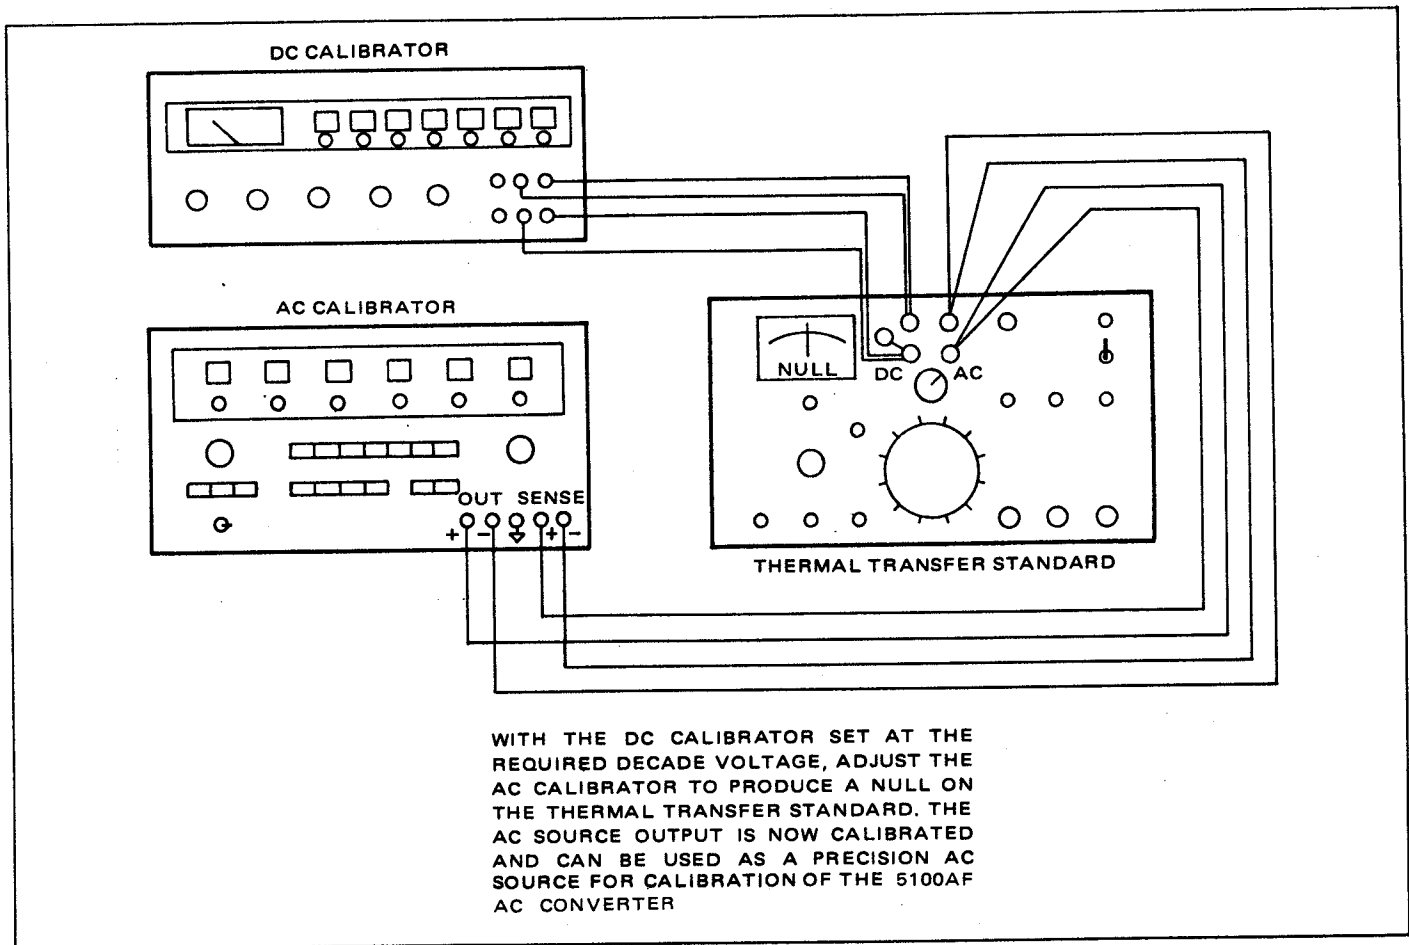

Figure 5.3 - AC Source
5.3.5.2 The test setup is shown in figure 5.3. Information on the use of the transfer standard can be obtained from the operator's manual.